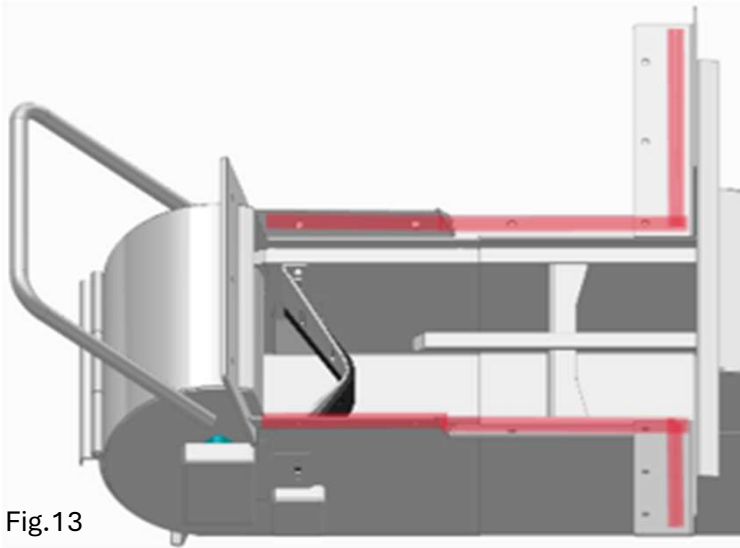

Fig.13
- Install seal tape (#41) as shown in Fig. 13 & 14.
- Before installing hopper, install sealing tape as shown in Fig.13 & 14